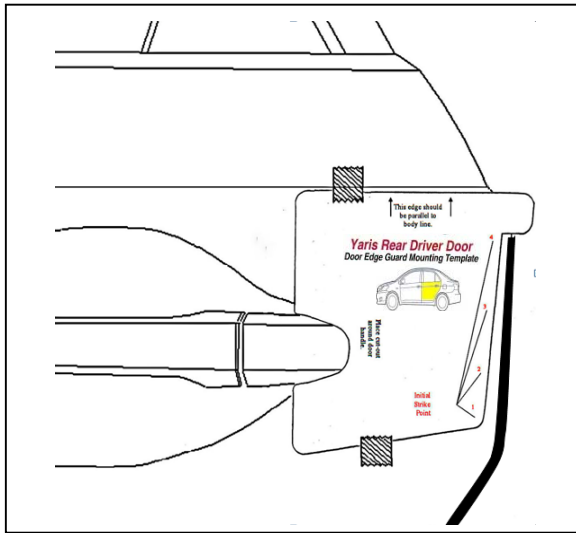

Fig. 1-4
- (3) Align the top edge of the DEG (labeled Rear Driver with Green sticker), with the lower edge of the template alignment notch as shown (Fig 1-4).
⚠ NOTE: The top of the DEG can be identified by matching the profile of the DEG to the door profile (Fig 1-4).